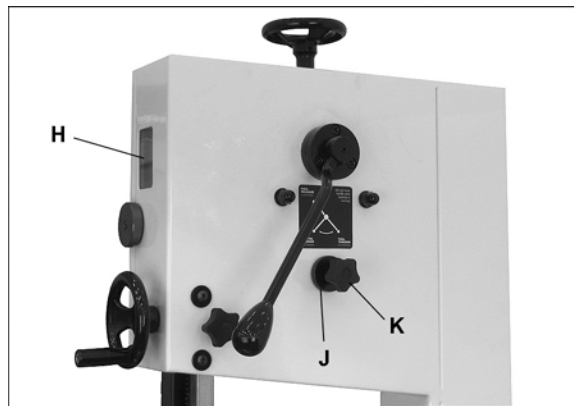

Figure 21
Refer to Figures 21 and 22.
- Make sure blade guides and other parts of machine will not interfere with blade movement. Lower guide post until you can see blade through tracking window (H, Figure 21).
- Set blade tension handle initially to “Partial Tension-Idle/Tracking” position, as shown in Figure 21.
8. Loosen locking nut (J, Figure 21) and slightly rotate tracking knob (K) with your right hand while continuing to rotate wheel with your left. Observe blade through tracking window. Rotating knob clockwise will cause blade to move toward rear edge of wheel. Rotating knob counterclockwise will cause blade to move toward front edge of wheel.